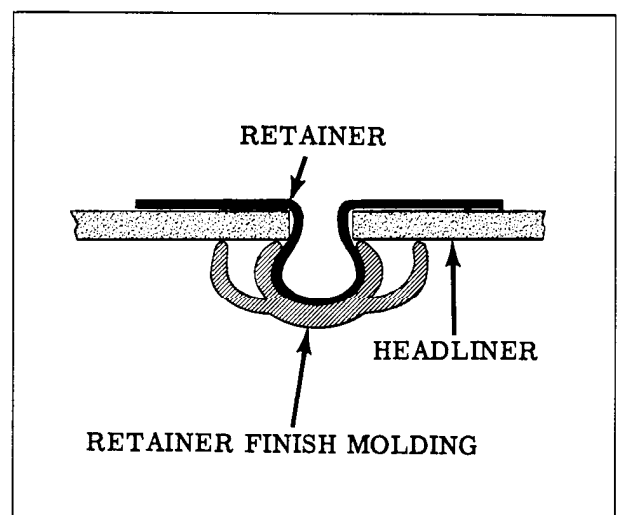

Fig. 17-186 Headliner & Retainer
2. With a screw driver or suitable tool, pry one end of the plastic retainer finishing molding loose from its retainer. Then "peel" the plastic retainer finishing molding from its retainer. (Fig. 17-186)